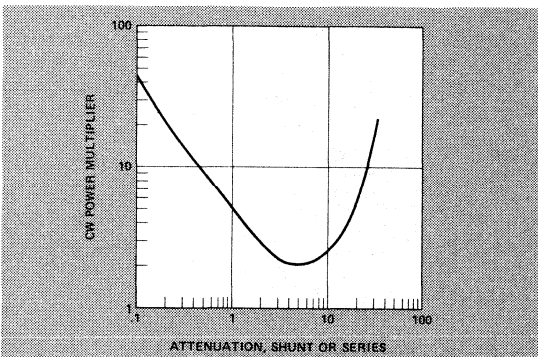
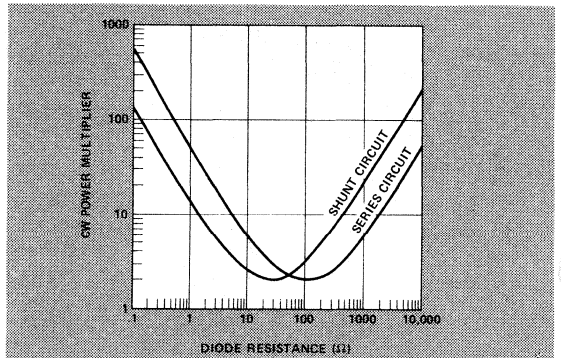

Figure 13. CW Power Multiplier vs. Series or Shunt Attenuation.
Figure 12. CW Power Multiplier vs. Diode Resistance.
2. Determine the CW Power Multiplier from Equation (1) for a shunt circuit, or Equation (4) for a series circuit. Alternatively, Figure 12 can be used if diode resistance is known, or Figure 13 can be used if circuit attenuation is known.